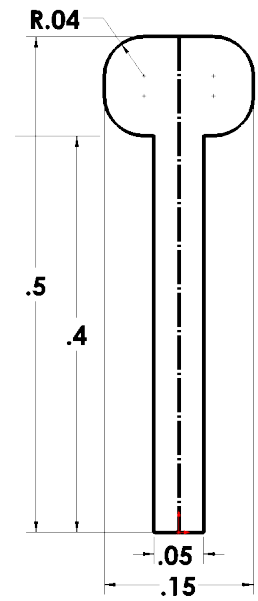

Fig. 8
Step 10. Click **Mirror Entities**  **Mirror Entities** on the Sketch toolbar, **Fig. 8**.